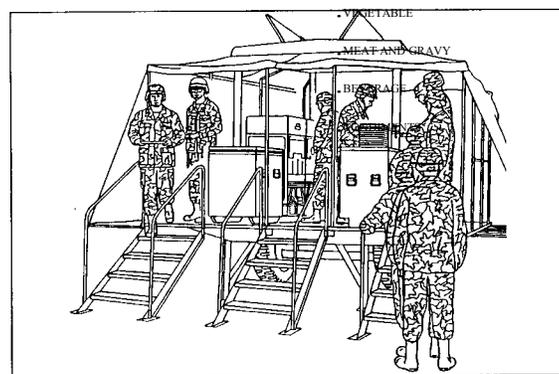

Figure 3-20 Trailer-mounted field kitchen with U-shaped serving line
- (3) When using the MKT, use a U-shaped serving line. See Figure 3-20.